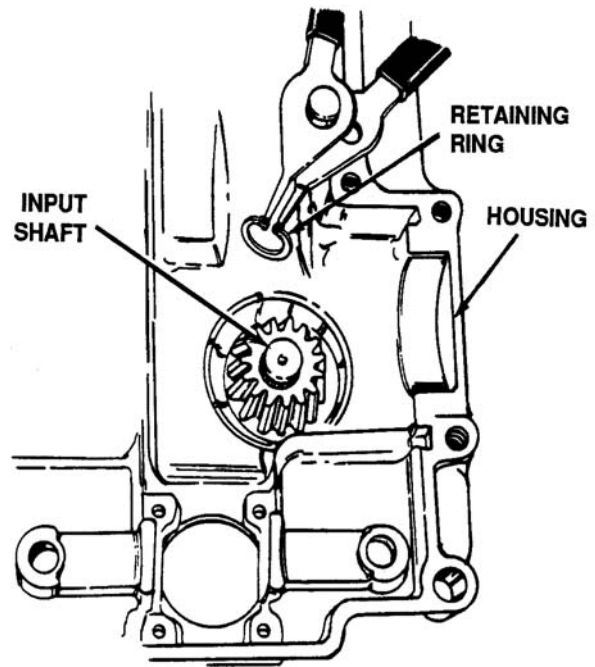

Figure 5-51. Removal of Retaining Ring
- Remove the retaining ring from the input shaft. See Figure 5-51.